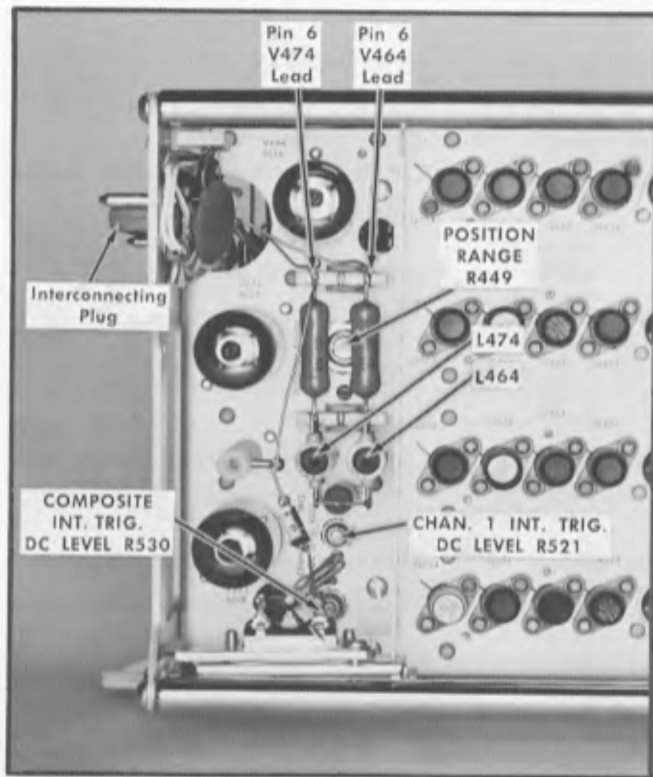

Fig. 6-2. Left side view, rear portion of the Type 3A74, showing location of test points, adjustments, and interconnecting plug.
- Using a small screwdriver, short the plates (pin 6) of V464 and V474 together. Fig. 6-2 shows the location of the pin 6 leads.
- With all the Type 3A74 POSITION controls set to midrange and the MODE switches set to NORM., adjust the POSITION RANGE R449 control (see Fig. 6-2) to center all the traces as a group at the crt electrical center.
- i. Connect the probe from the test oscilloscope to pin 6 lead of V464 (see Fig. 6-2).
- k. Connect the probe from the test oscilloscope to pin 6 lead of V474 (see Fig. 6-2) and check that the calibrator waveform displayed on the test oscilloscope is 40 volts peak-to-peak, within a tolerance of 2 volts.